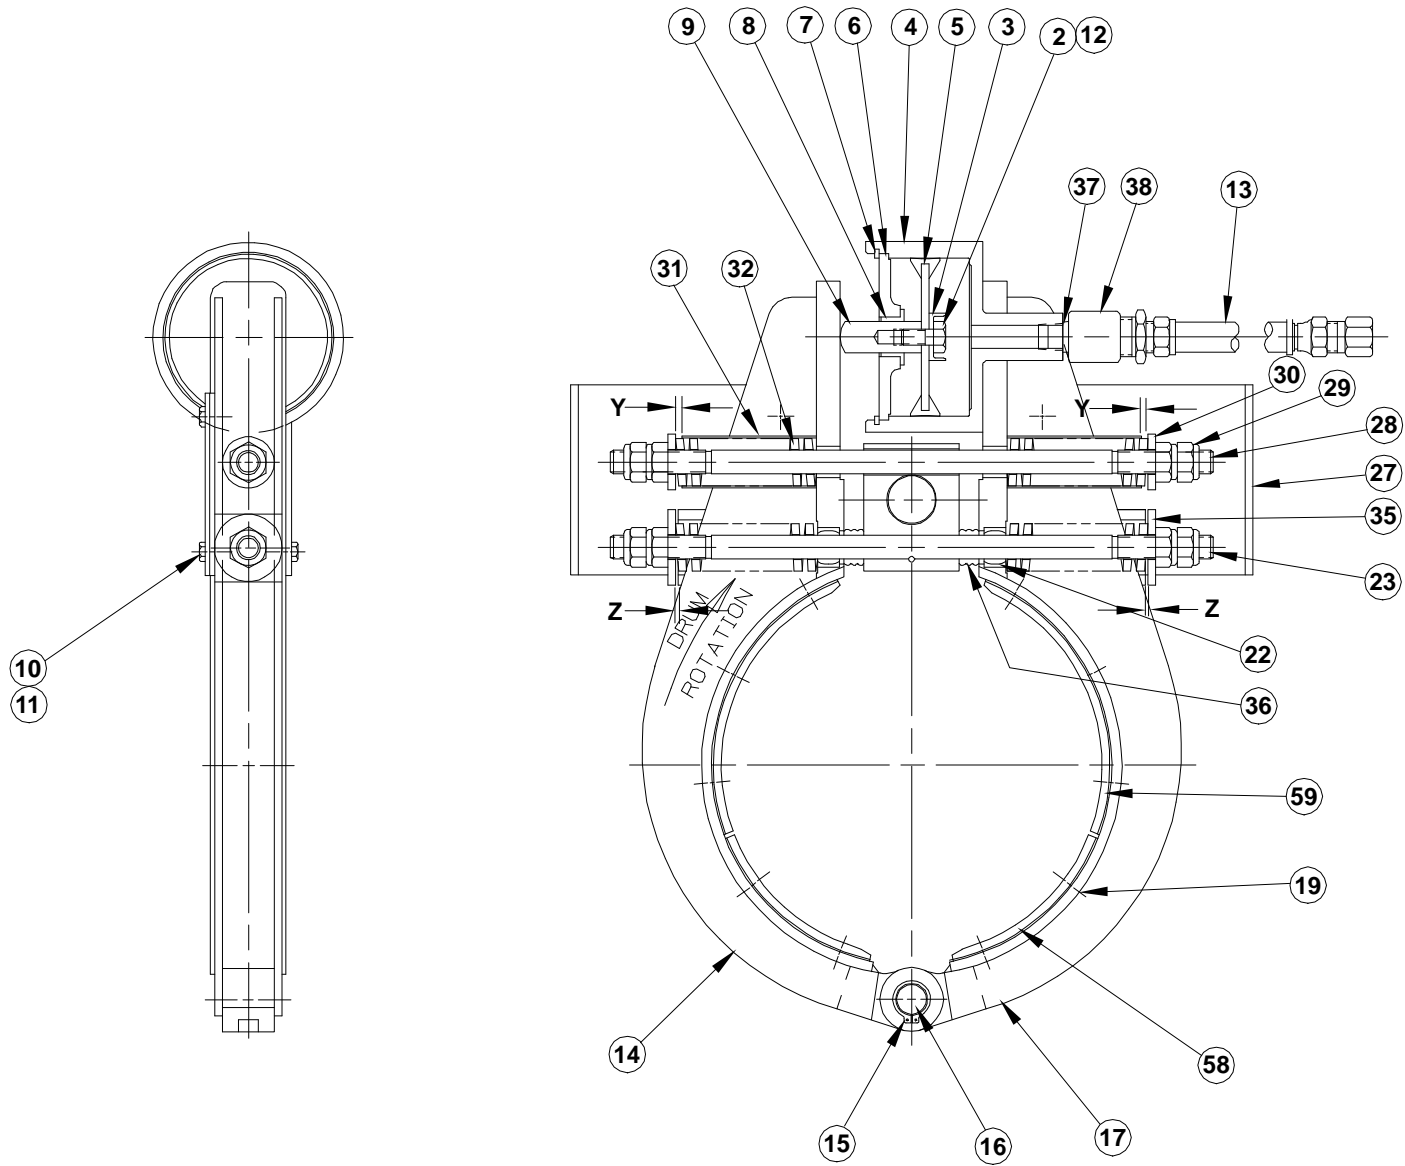

Figure 1
Throughout this manual a number given in () refers to the part identified in Figures 1 through 3 and Table 1.
- 1.2.1 Refer to the brake drawings, Figures 1 through 3. The two brake shoes assemblies (14) and (17) are hinged together by a pin (16). When air
Before performing any work, read this manual and study the brake Figures 1 through 3. Know what needs to be done. Do not risk injury- follow the instructions.